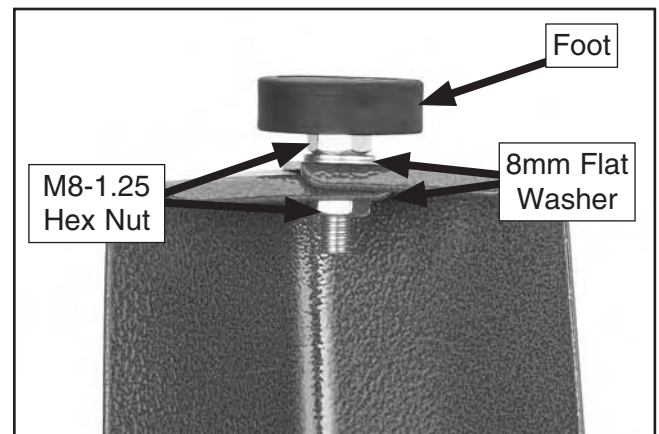

Figure 13. Foot installed with flat washers and hex nuts.
4. Attach each of the feet to the bottom of the stand legs, as shown in **Figure 13**, using (2) M8-1.25 hex nuts and (2) 8mm flat washers.